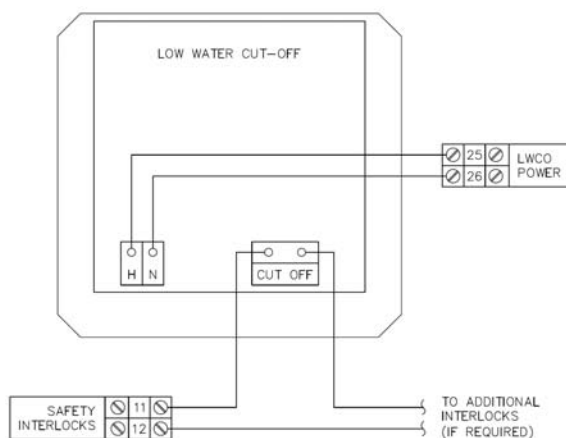

Figure 8.27: Low Water Cut-off (LWCO) Wiring
- **Low Water Cut Off:** This is the default selection on the control. When installing a probe type low water cut off, locate the LWCO in the boiler supply above the top jacket panel. A probe type LWCO, such as the Hydrolevel 1150 or the McDonnell & Miller RB-120 is recommended. Refer to Figure 8.27 for recommended wiring.